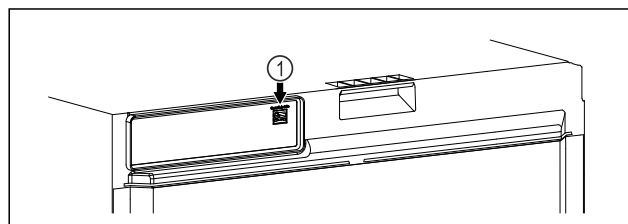

Fig. 112
- ❑ SmartModule Fig. 112 (1) is inserted.